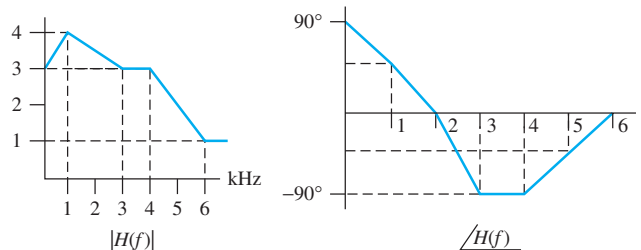

FIGURE P7.22 Frequency response for Problem 7.22.
7.22 (H) Find the output of the filter represented by the frequency response in Figure P7.22, given this input: